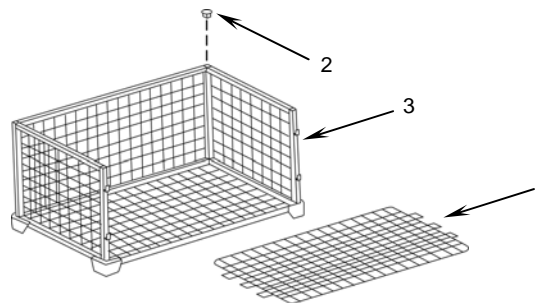

Figure 1. Replacing Storage Rack Components.
1. Remove and replace defective or missing shelf/cover (**Figure 1, Item 1**).
2. Remove and replace defective or missing tube plug (**Figure 1, Item 2**).
3. Replace defective storage rack (**Figure 1, Item 3**).